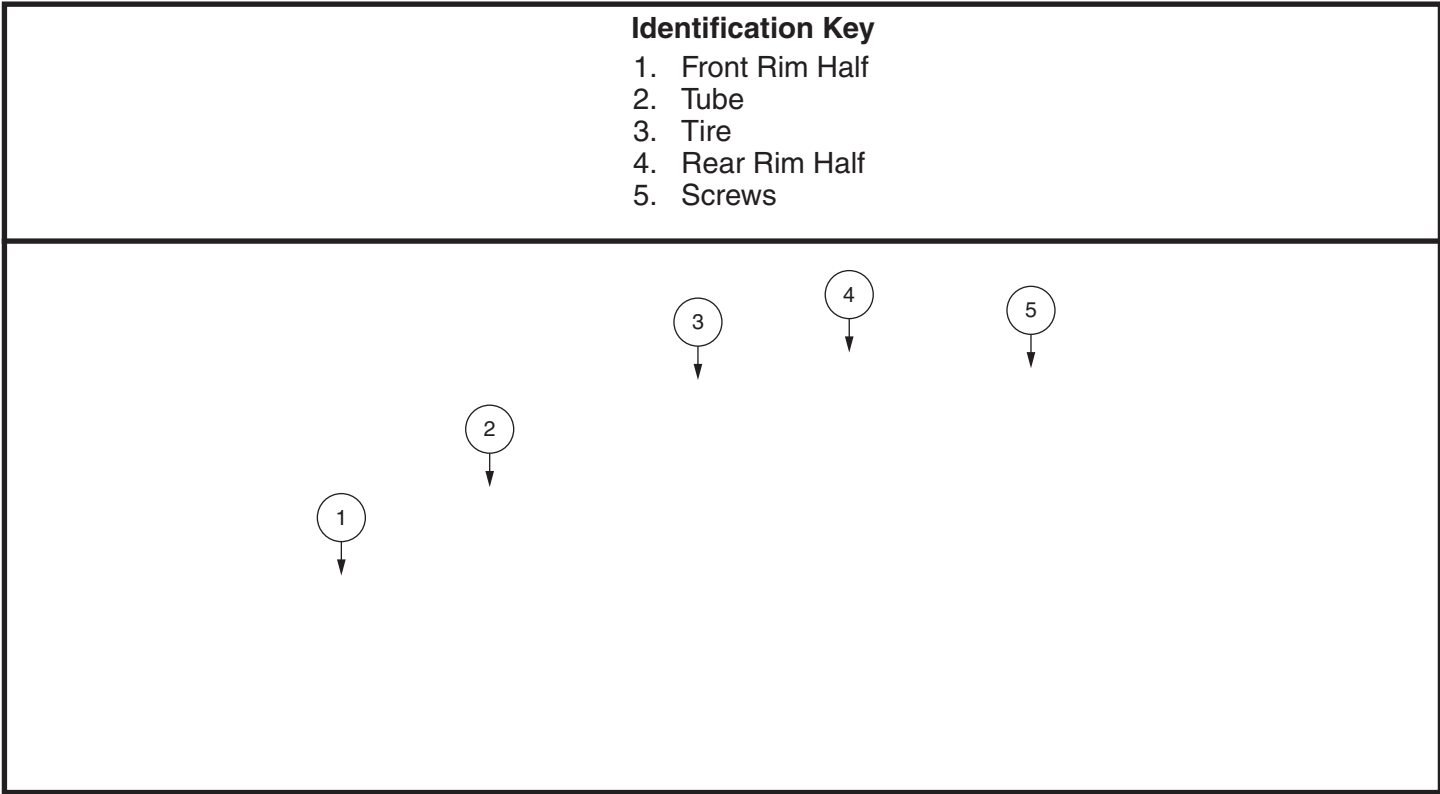

Figure 20. Q6 Series Drive Wheel Disassembled
6. Remove the screws and separate the front and rear rim. **See figure 20.**
10. Reinstall the five (5) lug nuts onto the wheel hub and tighten.